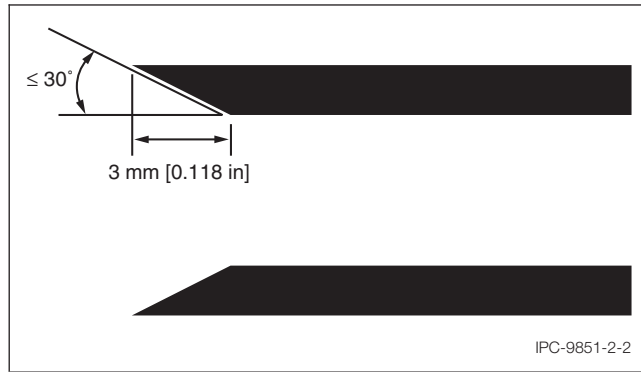

Figure 2-2 Lead-In
2.7 Lead-in The minimum lead-in on the track ends of the conveyor is 3 mm [0.118 in] and the angle **shall not** be greater than 30° as shown in Figure 2-2.
3.6 Lead-in The minimum lead-in on the track ends of the conveyor is 3 mm [0.118 in] and the angle **shall not** be greater than 30° as shown in Figure 2-2.